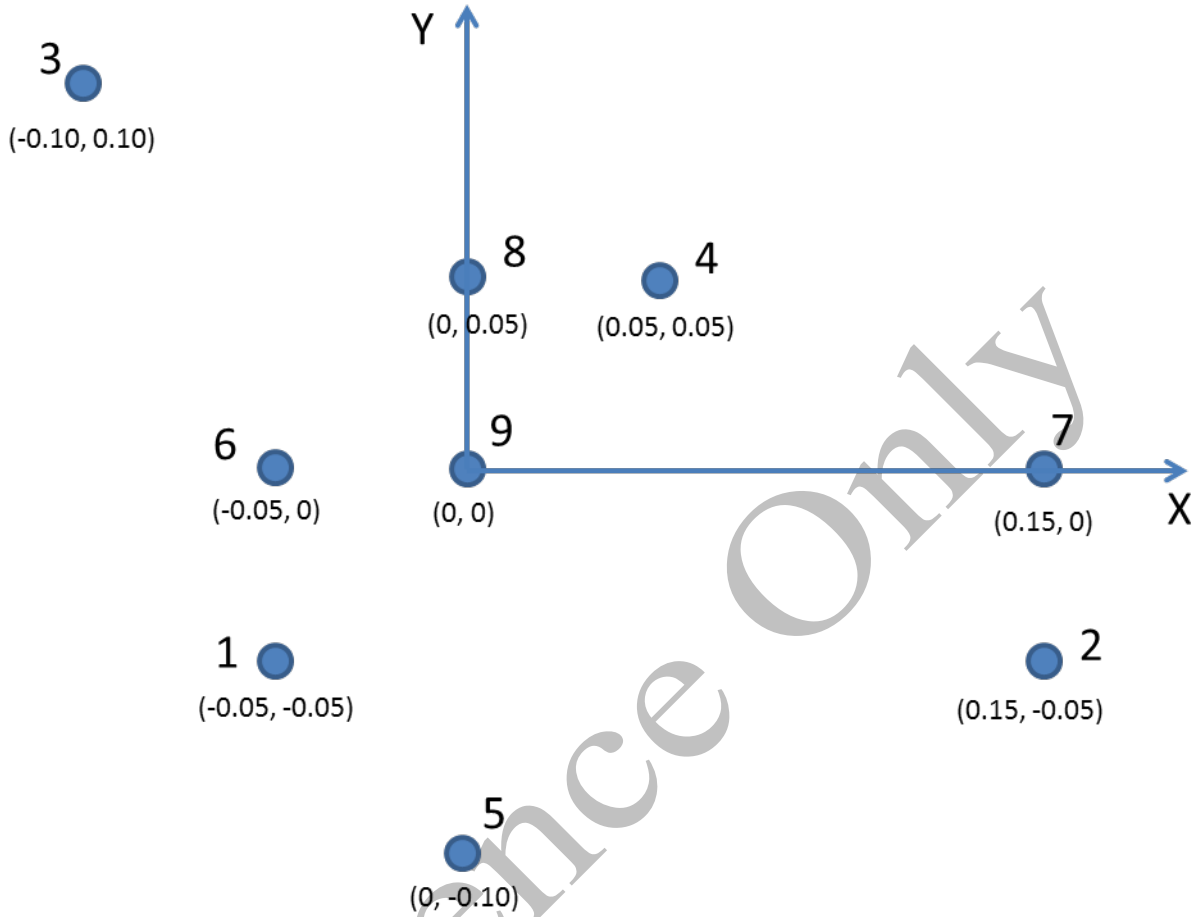

Figure 16: Custom “grid” spacing for this example.
- 6) In this example we will change the spacing as shown in Figure 16 and Table 1.